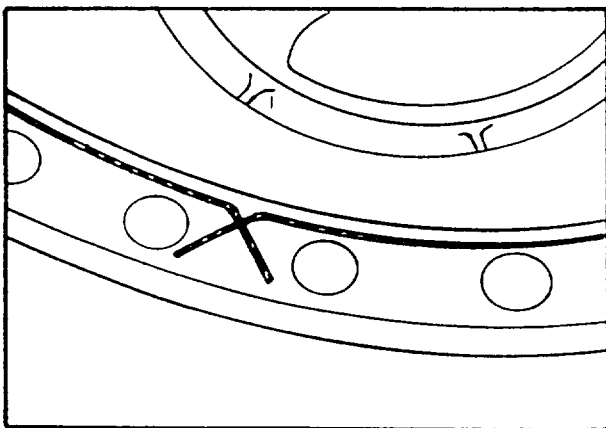

Fig. 9/4c
- 8) Place Teflon packing cord 9 on sealing surface of clutch casing as shown in Fig. 9/4c. Make sure cord ends are crossed. To keep the cord in its place, coat it with grease. Sealing surfaces of primary wheel and clutch casing must be in perfect condition; they must not be coated with a sealing compound.